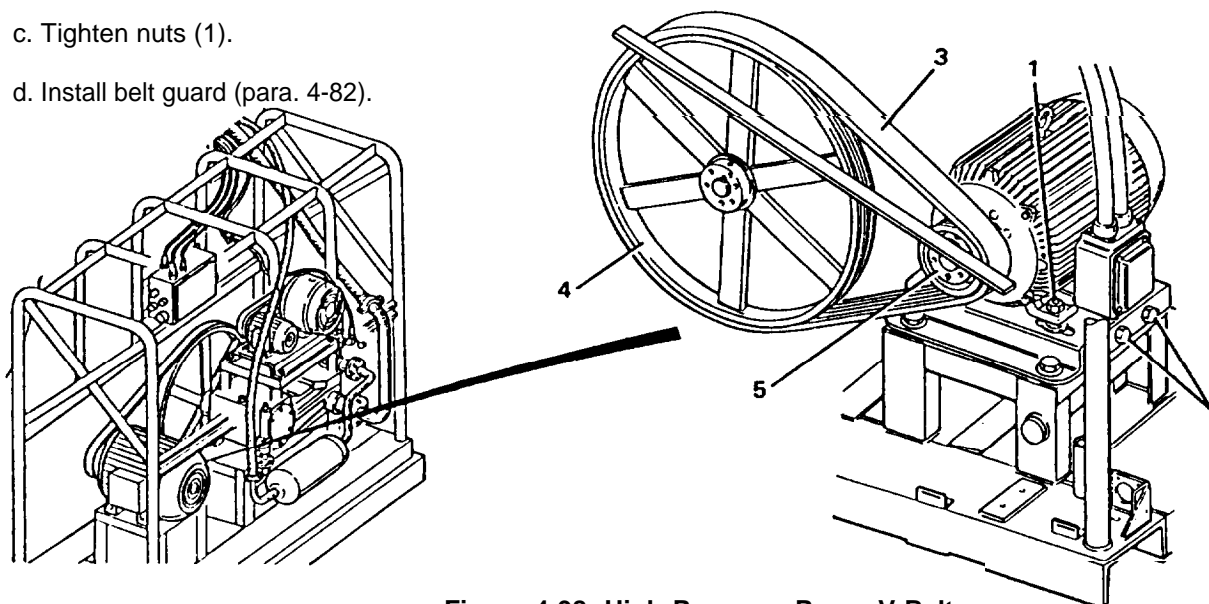

Figure 4-98. High Pressure Pump V-Belt
- Refer to Figure 4-98 and loosen four nuts (1).
- Turn jackscrews (2) equally and evenly until V-belt (3) is loose enough to be removed
- Remove V-belt (3) from sheaves (4 and 5).
- Tighten nuts (1).